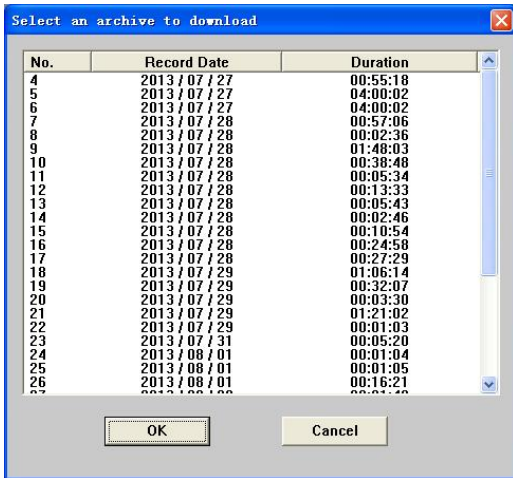

Figure 2-3 "Select an archive to download" dialog box
- ③ If connection succeeds, the “Connect” button will be grayed. And other originally grayed unavailable buttons will be available now. After connection with the computer, YH-600B Pro will automatically enter the communication status.
- ④ After connection is established, click “Replay”. A window for selection of data to be downloaded will pop up, as shown in Figure 2-3 below.